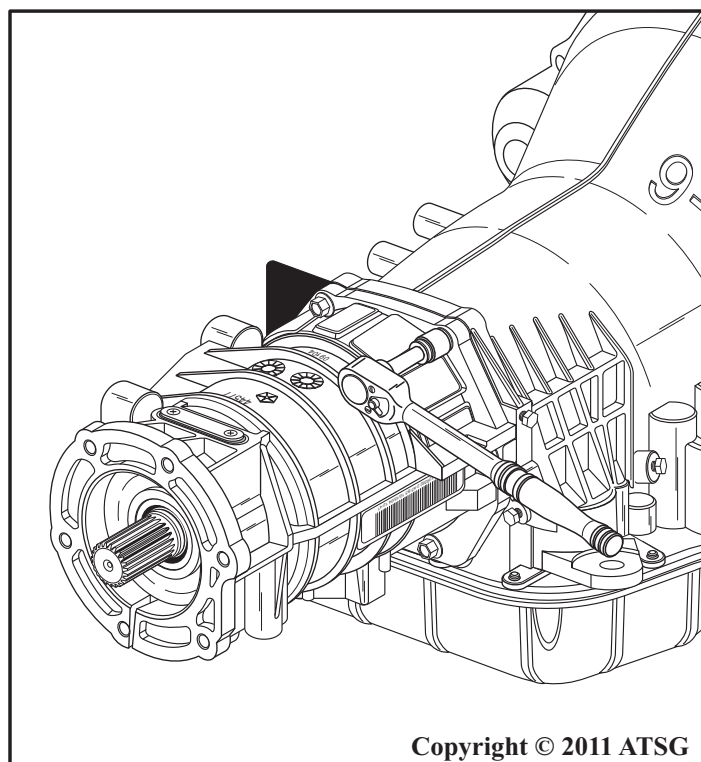

Figure 65
14. Remove the seven overdrive housing retaining bolts, as shown in Figure 65, using a 7/16" socket and ratchet.